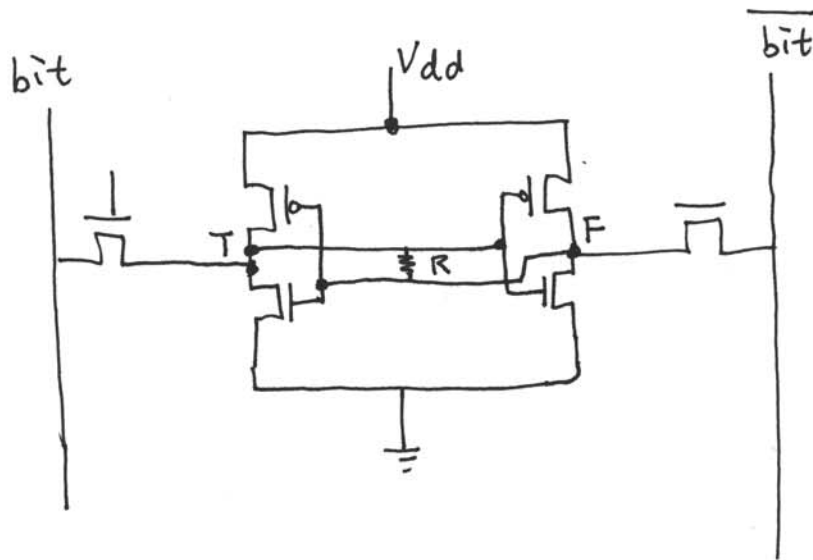

Figure 3.
4. Figure 3 shows a SRAM cell which contains six transistors. Assume there is a bridge defect connecting the T terminal and the F terminal of the cell as shown, and the resistance of the bridge is R. (a) Is large R or small R easier to cause an error by this defect? Why? (b) To reduce the leakage power, we might reduce the supply voltage. Would smaller supply voltage make the cell more vulnerable to the bridge? Why? (12%) **Note: writing too much will take of risk of grading error. Just use short answers.**